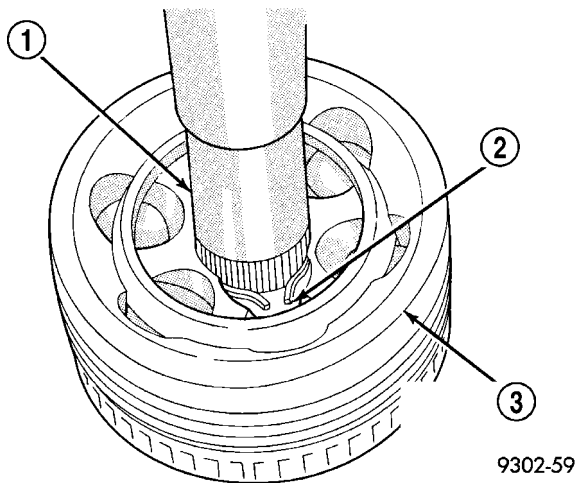

Fig. 32 Outer C/V Joint Installed On Interconnecting Shaft
(1) Slide a new seal boot to interconnecting shaft retaining clamp, onto the interconnecting shaft. Then slide the replacement outer C/V joint assembly sealing boot onto the interconnecting shaft.
(2) Install outer C/V joint assembly onto interconnecting shaft. Joint is installed on interconnecting shaft, by pushing interconnecting shaft into outer C/V joint, until retaining snap ring is seated in groove on interconnecting shaft (Fig. 32). Verify the snap ring is fully seated into groove on interconnecting shaft.